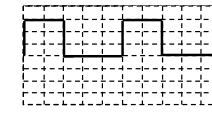

Figure 9
15. The rectangular signal in Fig. 9 is viewed on the screen of an oscilloscope that has: $C_y=2\text{V/div}$, the zero level is in the middle of the screen, coupling: **DC**. Calculate the DC component of the signal. Draw the image on the screen of the scope in AC mode.